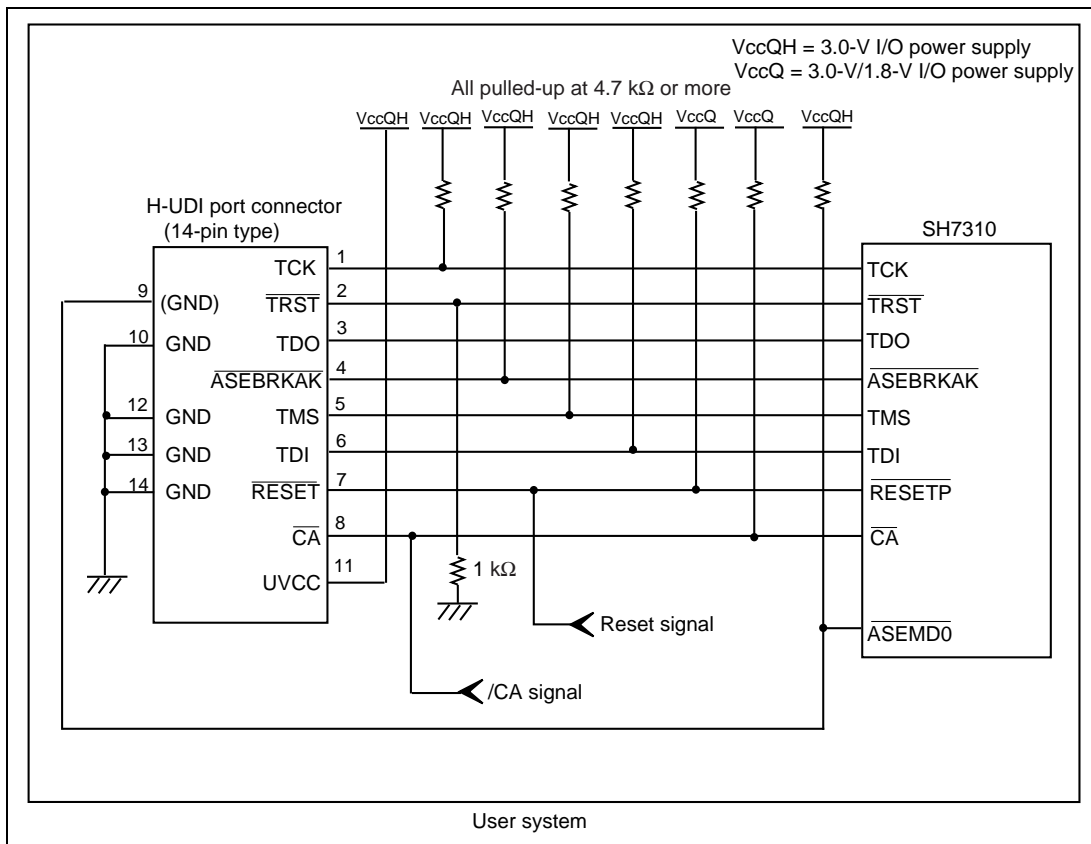
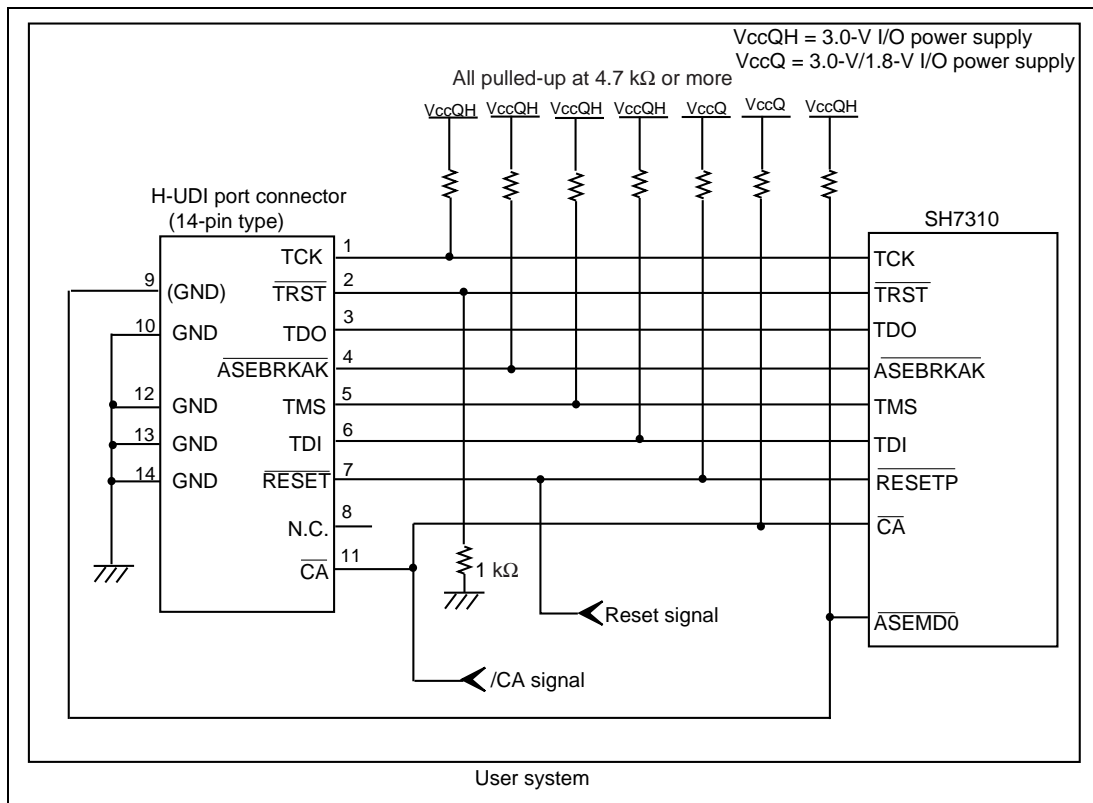

Figure 1.5 Recommended Circuit for Connection between the H-UDI Port Connector and MPU when the Emulator is in Use (14-Pin Type UVCC Connected)
Figure 1.6 Circuit for Connection between the H-UDI Port Connector and MPU when the Emulator is in Use (14-Pin Type UVCC Not Connected*)
Figure 1.5 shows a recommended circuit for connection between the H-UDI and AUD port connectors (14 pins) and the MPU when the emulator is in use. Figure 1.6 shows a circuit for connection when UVCC is not connected.
- (1) When the emulator is used: /ASEMD0 = 0 (ASE mode)
- (2) When the emulator is not used: /ASEMD0 = 1 (normal mode)Figures 1.5 and 1.6 show examples of circuits that allow the /ASEMD0 pin to be GND (0) whenever the emulator is connected by using the user system interface cable. When the /ASEMD0 pin is changed by switches, etc., ground pin 9. Do not connect this pin to the /ASEMD0 pin.
8. When the power supply of the user system is turned off, supplying VccQ of the user system to the UVCC pin reduces the leakage current from the emulator to the user system. A level shifter that is activated by the internal power supply or user power supply (changed by the switch) is installed in the interface circuit of the emulator. If the user power is supplied to the UVCC pin, the level shifter is not activated as long as no user power is supplied. When the power supply of the user system is turned off, no current flows from the user interface. The I/O voltage level of the user system interface can be the same as that of the VccQH. To operate the emulator with low voltage (lower than 3.3 V), the VccQH must be supplied to the UVCC pin. Since the H-UDI and the AUD of the MPU operate with the VccQH, supply only the VccQH to the UVCC pin. Make the emulator's switch settings so that the VccQH will be supplied (SW2 = 1 and SW3 = 1). With these settings, pin 11 is used as the UVCC pin. The /CA pin must be connected to pin 8 (as shown in figure 1.5).
9. Changing the emulator switches (SW2 = 0 and SW3 = 1) allows pin 11 to be used as the /CA pin. With this setting, supplying the VccQ to the UVCC pin is not available. Thus the I/O voltage level of the user system interface will be fixed to 3.3 V. Pin 8 must be N.C (open), as shown in figure 1.6.
When the circuit is connected as shown in figure 1.5, the switches of the emulator are set as SW2 = 1 and SW3 = 1. For details, refer to section 3.8, Setting the DIP Switches, in the Debugger Part of the SuperH™ Family E10A-USB Emulator User's Manual.
When the circuit is connected as shown in figure 1.6, the switches of the emulator are set as SW2 = 0 and SW3 = 1. For details, refer to section 3.8, Setting the DIP Switches, in the Debugger Part of the SuperH™ Family E10A-USB Emulator User's Manual.